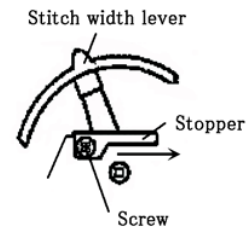

Fig.2
2. Loosen the screw, move the stitch width lever to left till the lever is stopped.(Fig. 2)
3. Push the stitch width lever till it contacts stopper, then tighten the screw.(Fig. 2)